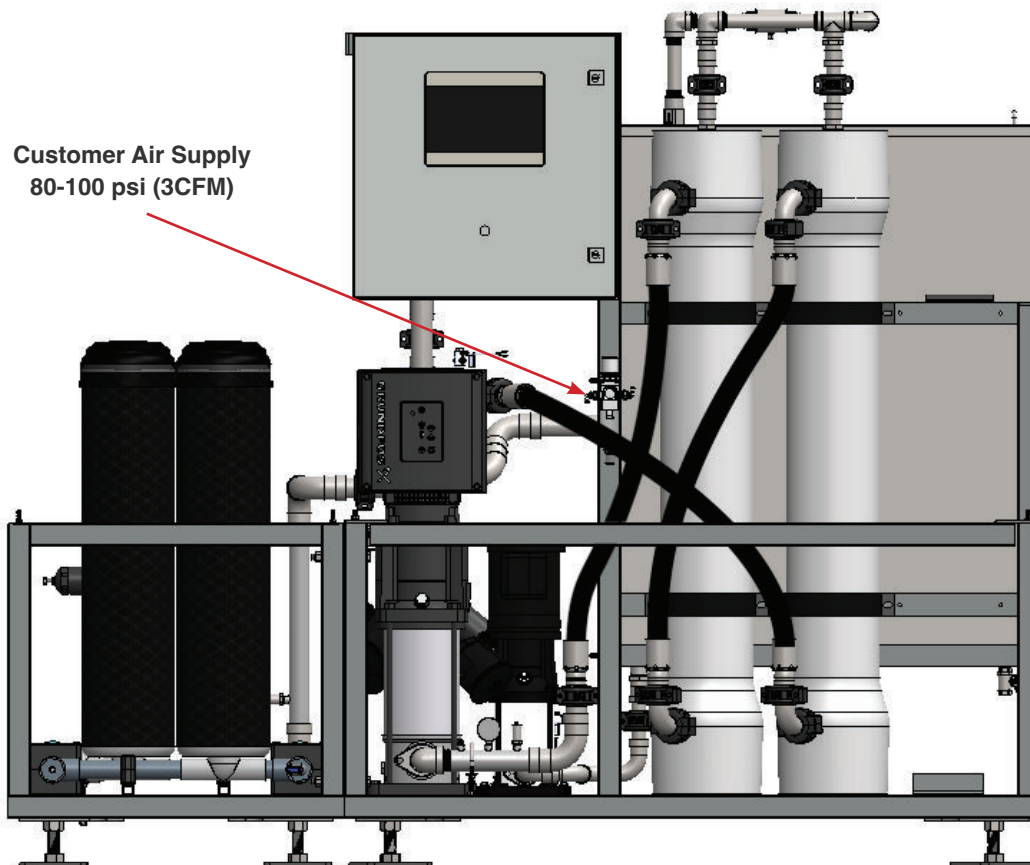

Fig. 3.2.2- 1 - Air regulator supply line connection
1. Install an air supply to the ¼" push connector air regulator. Verify air supply can supply 3CFM at 80-100 psi, and adjust the air regulator to 80-100 psi (Fig. 3.2.2 - 1).